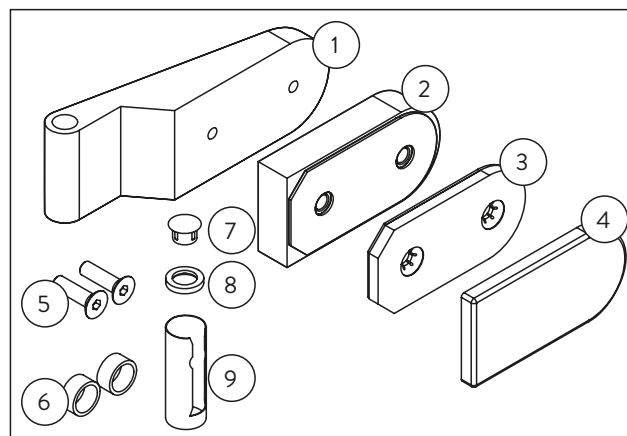

Abb. 14 Parts included
- 2 x panel section (Fig. 14/1)
- 2 x lining section (Fig. 14/2)
- 2 x counter-plate (Fig. 14/3)
- 2 x end cap (Fig. 14/4)
- 4 x countersunk screw (Fig. 14/ 5)
- 4 x tube section (Fig. 14/6)
- 2 x cap (Fig. 14/7)
- 2 x bearing plate (Fig. 14/8)
- 2 x sleeve for frame pivot (Fig. 14/9)